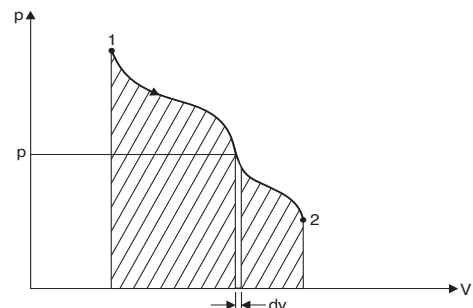

Fig 2.3
When a fluid undergoes a reversible process a series of state points can be joined up to form a line on a diagram of properties. The work done by the fluid during any reversible process is therefore given by the area under the line of process plotted on a  $p$ - $v$  diagram (Fig. 2.3).
i.e., Work done = Shaded area on Fig. 2.3